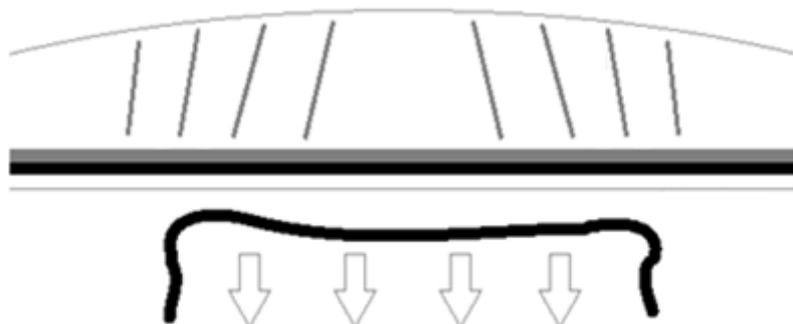

Fig119
- **STEP 1:** Cut a 19mm x 38mm batten to fit across the top of the door frame and end frame between the outer battens that form the rebate. Starting at one end of the polytunnel, trap the polythene with this batten pressed tight against the rebate batten. The polythene should be smoothed out 4 inches either side of the lintel centre and the batten nailed in place along this 8 inch length only (**Fig119**).